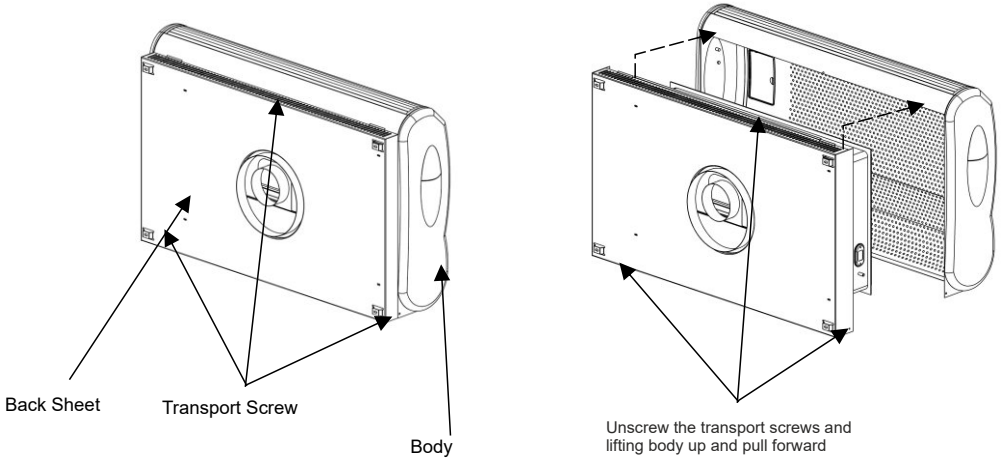

Figure-1
- To change the injector, firstly the body of our heater is removed as shown in Figure-1 First the input pipe, then the injector is removed in order, as seen in the figure. The injector with the appropriate diameter for the gas used in the country is selected and attached to our heater's burner. Then, the burner input pipe is attached to the injector. Following the completion of our heater's assembly, gas line is checked for any leaks using soapy foam or a gas leak detector device.